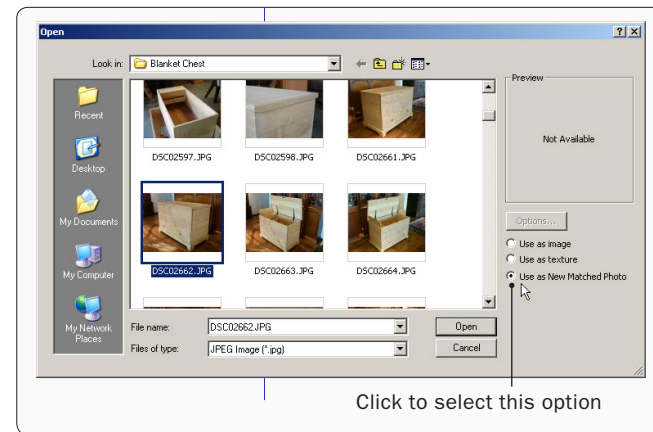

Figure 14. To model from a photograph, choose the image you want and select the option shown.
Step 1 Open a new SketchUp file. Click on File in the Menu Bar and select Import. When the dialog box appears, locate the folder containing the photo you want to use, choose the Use a New Matched Photo option, then click Open (Figure 14).